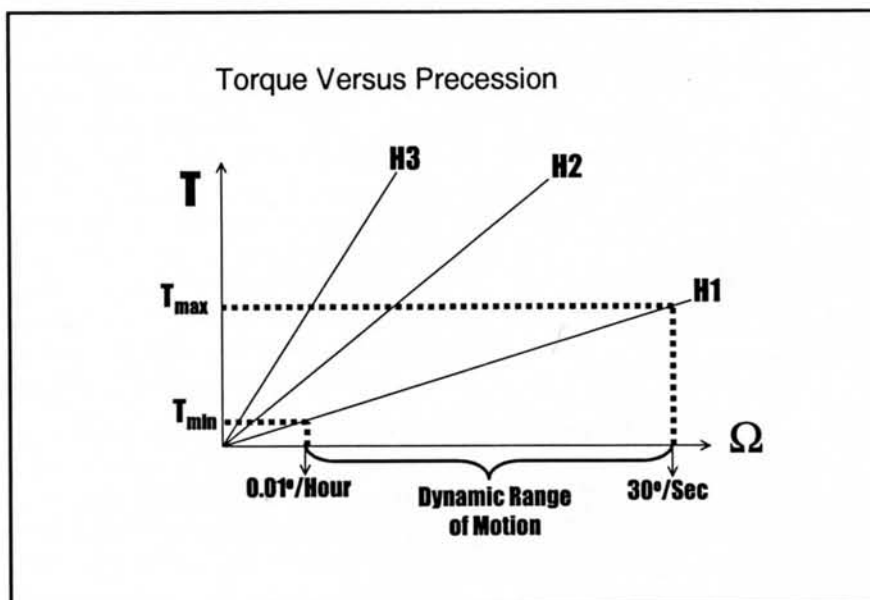

Fig. 3. As the angular momentum (H) of the gyro gets larger, more torque (T) is required to make the gyro precess at a given rate.
The two parts of the design problem are graphically presented in *Figures 3 and 4*, which are qualitative representations, not graphs of real experimental data. *Figure 3* represents the simplified fundamental equation of a spinning wheel gyro, $T = H \times \Omega$, where H represents the angular momentum of the spinning wheel and equals the product of the spin rate and the wheel's moment of inertia. In this representation, $H1 < H2 < H3$. T represents the torque required about the gyro's input axis to make the gyro wheel precess (rotate) at a rate Ω about its output axis.
The fundamental equation and *Fig. 3* show that as the angular momentum (H) of the gyro gets larger, more torque (T) is required to make the gyro precess at a given rate (Ω). There are two ways to change the angular momentum of the gyro — change its spin rate, or change its moment of inertia (its mass and diameter). In strapdown or other high dynamic-rate applications, therefore, it would be advantageous to keep the angular momentum of the gyro small so that less torque is required to keep the gyro stabilized under high input-rate conditions. However, *Fig. 4* shows why this is a trade-off.